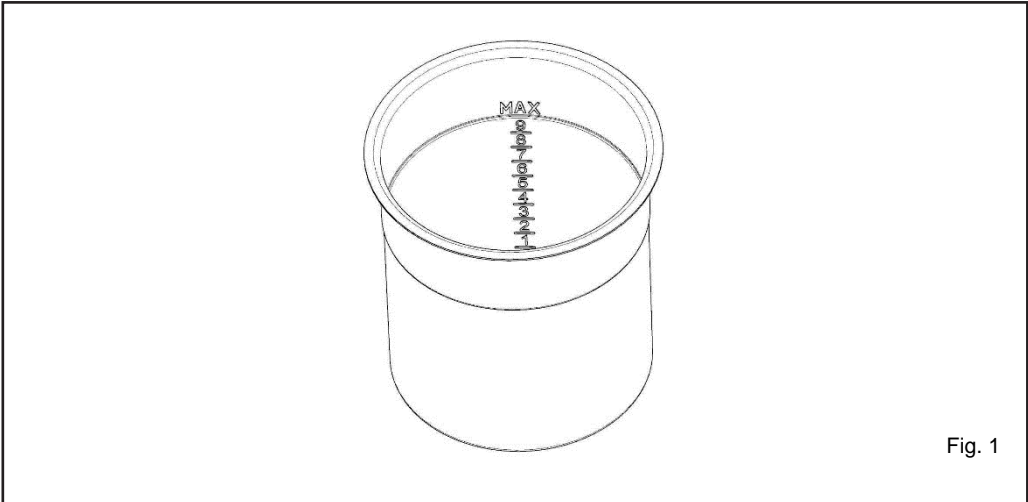

Fig. 1
- Respect the MAX level indicator. (Fig.1).